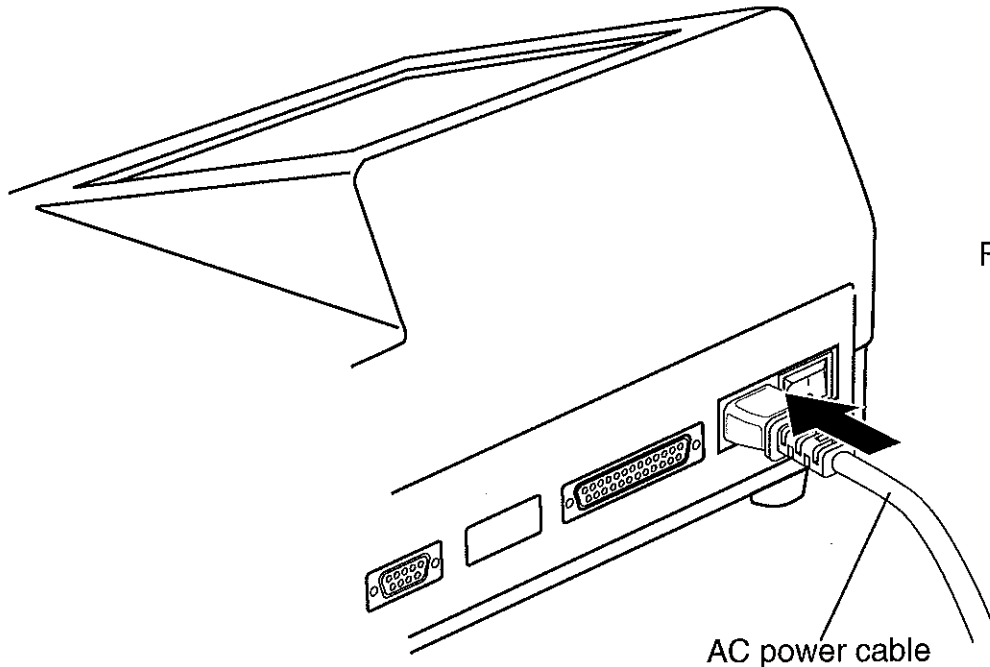

Fig.5-1
(1) Connecting the AC power cable (Fig. 5-1)